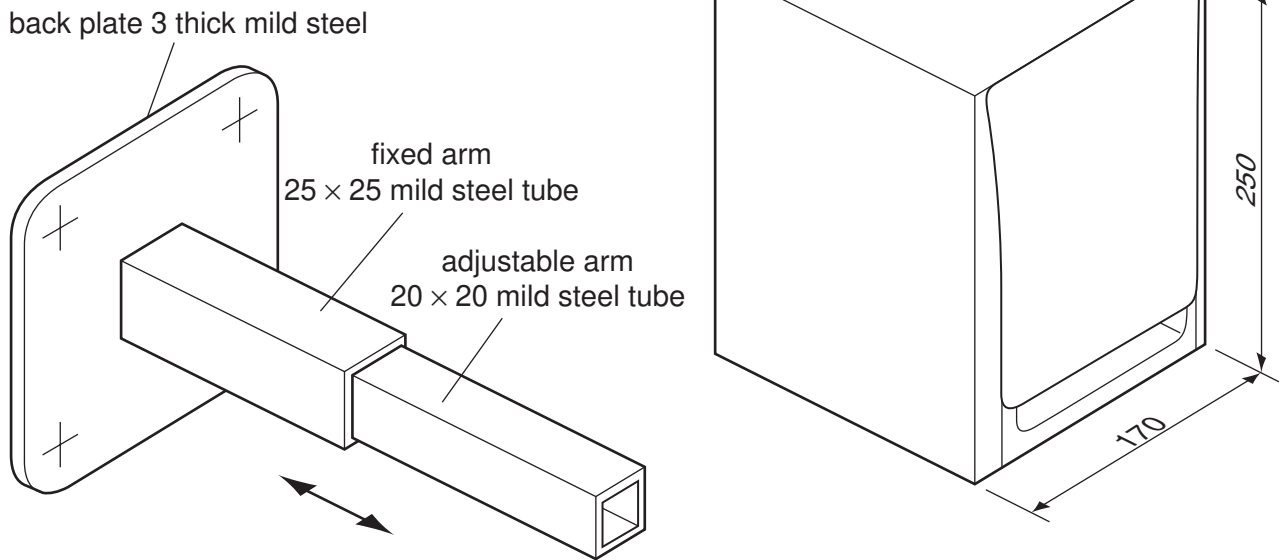

Fig. 8
- 13 Fig. 8 shows an incomplete design for a bracket to hold a hi-fi speaker similar shown. The bracket must be capable of supporting different sizes of speaker.